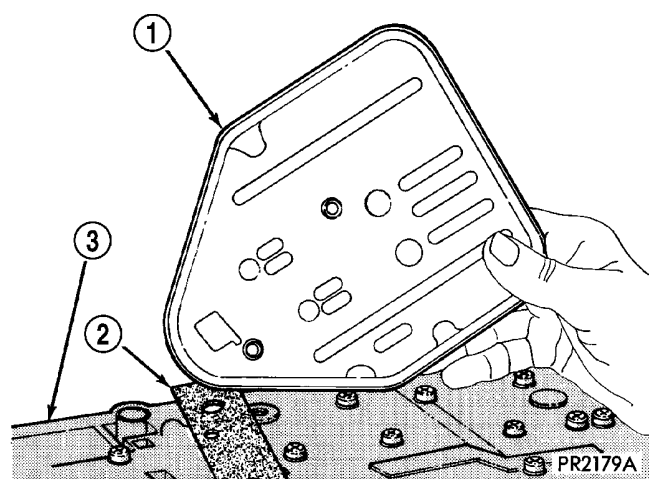

Fig. 10 Oil Filter and Gasket
- 3 - OIL FILTER SCREWS (2)
(4) Remove oil filter and gasket (Fig. 10).
(5) Install a new filter and gasket (Fig. 10).